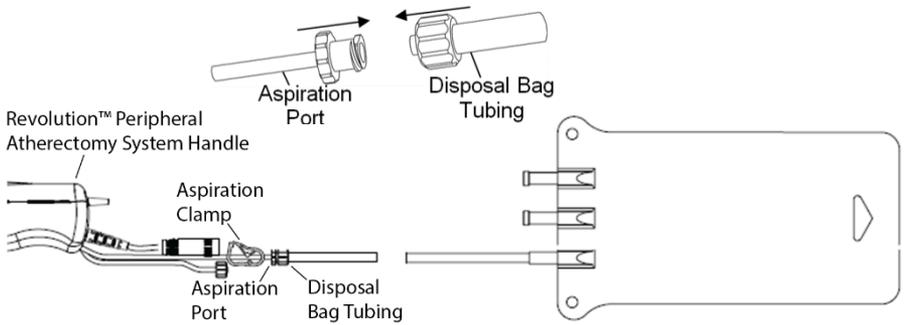

Figure 6: Connect disposal bag
3. Attach the supplied disposal bag to the aspiration port, as seen in Figure 6. **NOTE: Ensure that the aspiration clamp is opened and the tubing is not damaged. Never activate the device if the aspiration clamp is closed.** The Revolution™ Peripheral Atherectomy System is now ready for use.
12. Release the ON/OFF button so that the Revolution™ Peripheral Atherectomy System is no longer rotating and image the vessel. **Warning: When the Revolution™ Peripheral Atherectomy System is not activated, arterial pressure may force excess blood into the disposal bag. Always shut the aspiration clamp, as seen in Figure 6, when the device is not in use. Before subsequent use, ensure that the clamp is opened and tubing is not damaged. Never activate the device with the aspiration clamp shut.** If continued treatment is required, push the speed switch to the back position (slow speed) and depress the ON/OFF button to fully remove particulate from within the system. Ensure the system is flushed with heparinized saline and push the speed switch back to the forward position (fast speed) before activating the Revolution™ Peripheral Atherectomy System again.